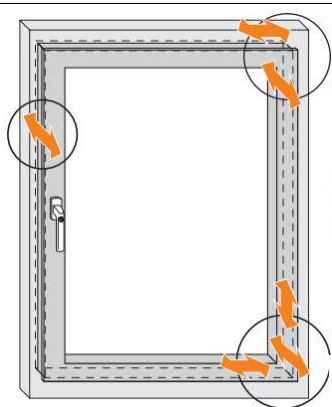

Figure 3
5. After proper sealing of the jamb and hardening of the assembly foam, **check the passage gaps of the operable frames and, if necessary, adjust** (according to Figure 3) the passage of the frame, adjust the passage gaps so that they are even if necessary.